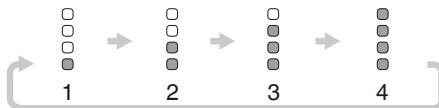

Fig. 19
(1) High / Low mode selector switch (Fig. 19, Table 5)